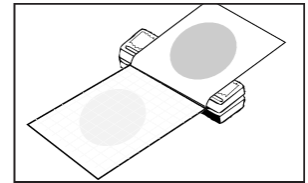

FIGURE 7
- b. Without touching the circular growth area, lift the top of the film portion of the hydrated plate and peel it back until the outer portion adheres to the double-sided tape. (fig. 7)